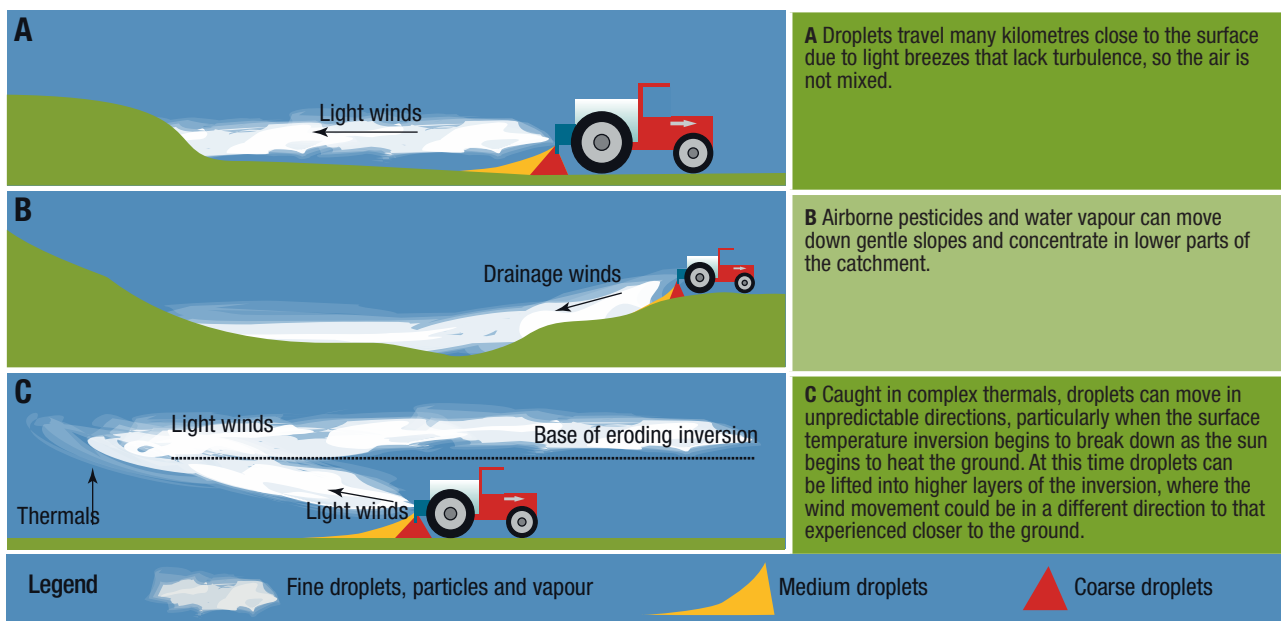

FIGURE 3 Possible movement of airborne droplets in surface temperature inversion conditions.
- droplets or their remnants can move in different ways (Figure 3).
On gentle slopes, concentrated droplets can be transported many kilometres by drainage winds towards the lowest point in the catchment. Under an inversion, where water runs from a property, droplets can move. See Figure 3 (c).